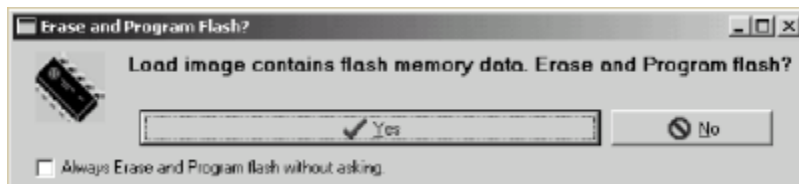

Figure 7-7: Erase And Program Flash Window
11. Click Yes in Erase and Program FLASH window. (**Figure 7-7**)